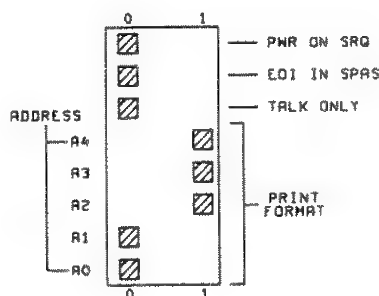

Figure 2-5 HB-IB Switches - 3776 as an Addressable Device
2-38 The setting of the TALK ONLY switch (see Figure 2-5) on the 3776 rear panel to the OFF (0) position configures the 3776 as an HP-IB addressable device under the remote control of a separate HP-IB controller. Each device in the HP-IB system requires a unique address to enable the system controller to differentiate between the devices. The address switches A0 to A4 shown in Figure A2-5 define the 3776 address (addresses range from 0 to 31).